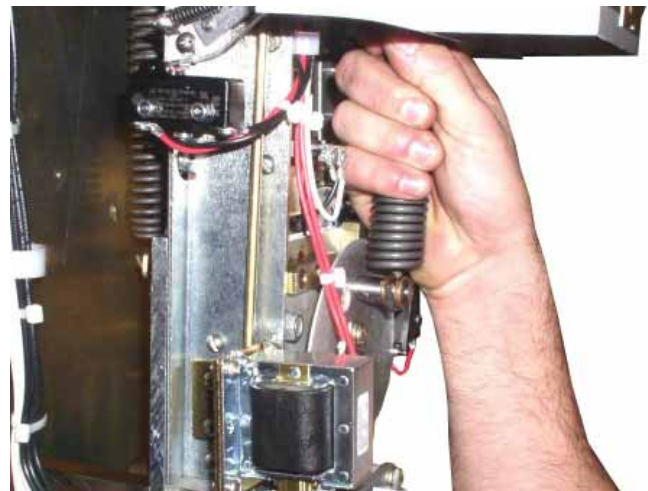

Figure 24.
- a.** Remove the closing spring from the bronze bushing on the crank lever. Allow the spring to hang down from the mechanism housing. Refer to Figure 24.